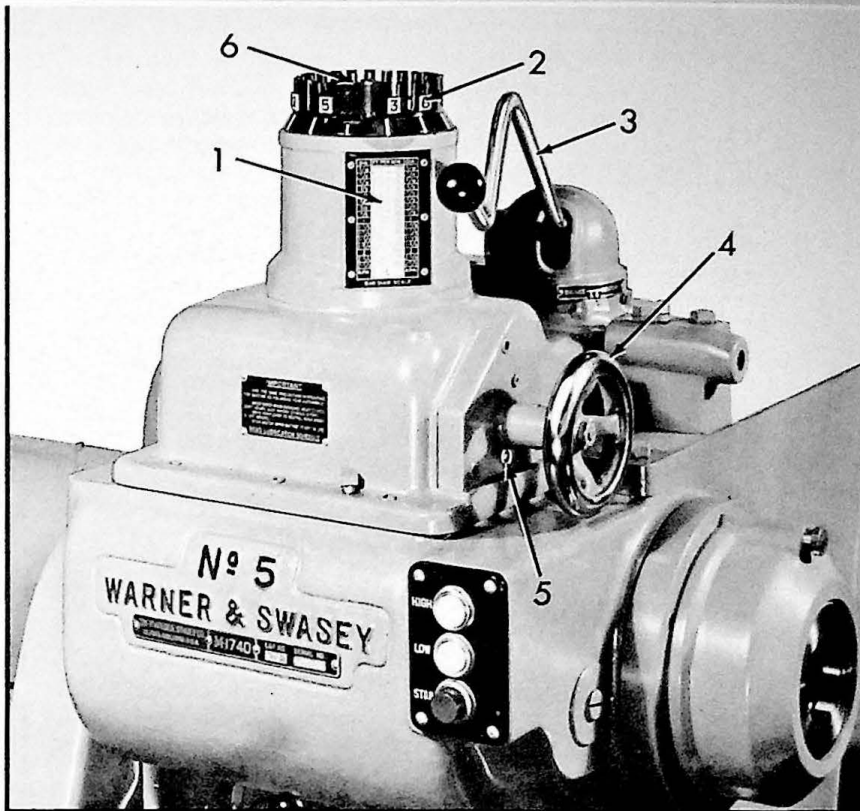

FIG. 25 The Preselector
1. The **CHART and DRUM DIAL** (1) Fig. 25, which shows surface speeds for all work diameters for the capacity of the machine, and which is rotated by the hand wheel (4) Fig. 25.
2. The **NUMBER TABS** (2) Fig. 25, on top of the drum, which show the correct speeds for each cut. After the machine is set up, the operator simply follows the number tabs.
3. The **SINGLE LEVER** (3) Fig. 25, which shifts all gears and operates the clutch and head brake. The operation of the Preselector is very simple. Study these instructions carefully to get the greatest benefit from the unit.
The Preselector is designed so that the operator can quickly select the correct r. p. m. to produce the proper surface feet per minute for any diameter to be cut by simply turning the handwheel (4) Fig. 25.
The proper surface speeds are selected by turning the handwheel (4) Fig. 25, which rotates the drum dial. The surface speed chart mounted on the drum dial, (shown in detail at (4) Fig. 26), gives surface speeds in feet per minute for the diameters shown on a stationary chart in the window (2) Fig. 26.
Remove the nut (6) Fig. 25, which holds the drum dial, and lift the drum out of its housing. Remove the wire spring clip inside the drum and a new chart can be slipped in place.
In reassembling, the chart must be synchronized with the Preselector mechanism. This is accomplished by turning the handwheel (4) Fig. 25, until the line on the end of the spool shaft (5) Fig. 25, matches the line on the side of the head cover. Then pull the shifter lever down to lock the drum shaft. Rotate the drum until the neutral position on the chart is centered in the window. With the shifter lever still down, tighten the nut (6) Fig. 25, securely. Now, test the drum for lost motion. The line on the drum should move an equal amount to the left or right of the line on the housing. If this is not the case, loosen the nut and readjust the drum to centralize the location.
Caution: When tightening the nut (5) Fig. 25, be careful not to strike the prongs of the drum with your wrench. The drum is made of aluminum alloy and might easily be broken.